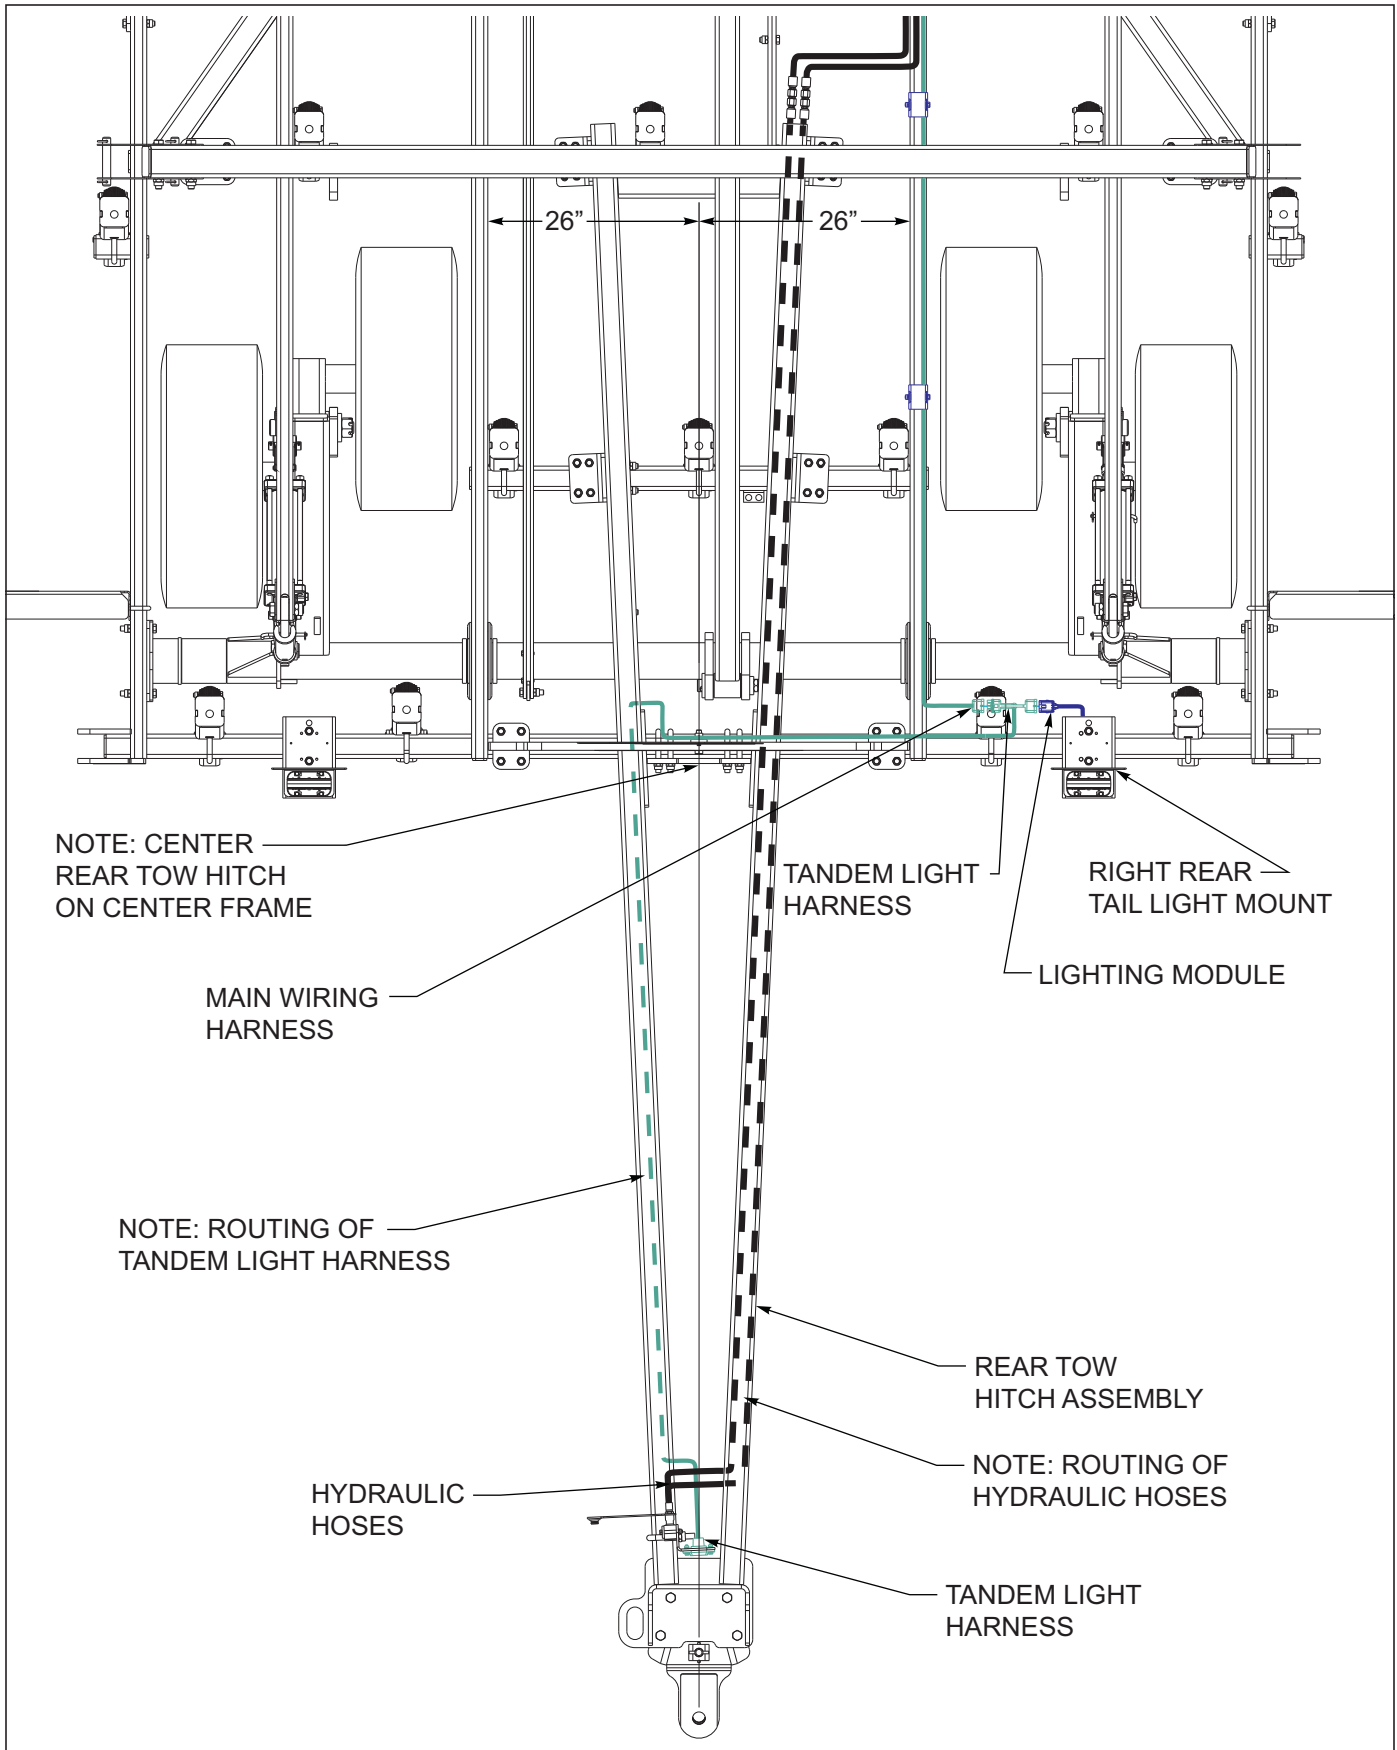

Figure 3-35: Rear Tow Hitch Layout
11. Secure the hoses and wiring to the frame using tie-straps and hose clamps. (*See “Center Lift Assembly” on page 3-4.*) for hose clamp installation and *See Figure 3-35* for proper placement.